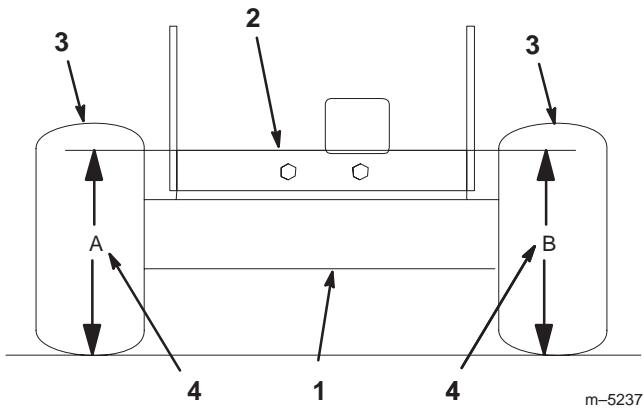

Figure 68
4. Measure engine deck height at location **A** (Fig. 68).
5. Measure engine deck height at location **B** (Fig. 68).